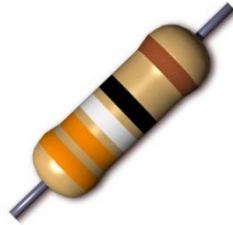

Figure 5 Resistor Example
1. Identify the band that is slightly farther away from the others (such as the brown band in Figure 5)